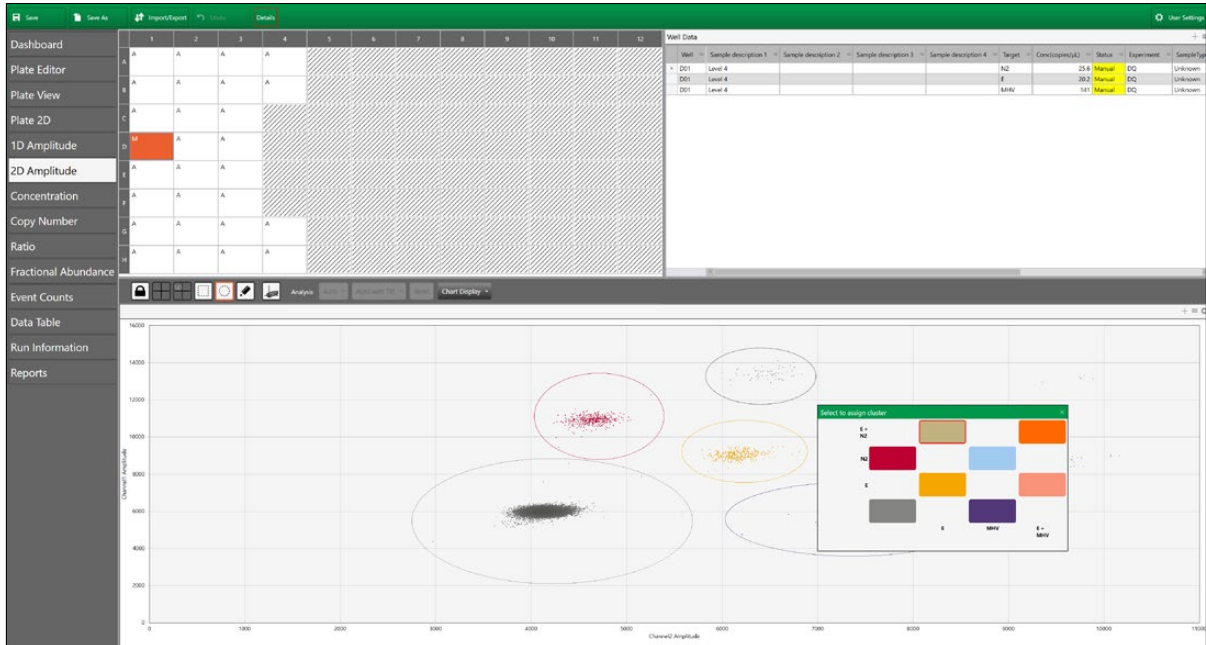

Fig. 16. N2 and E double-positive cluster.
- The cluster above the N2 and E single-positive clusters is a double-positive cluster corresponding to droplets that are both **N2** and **E** positive (Figure 16).